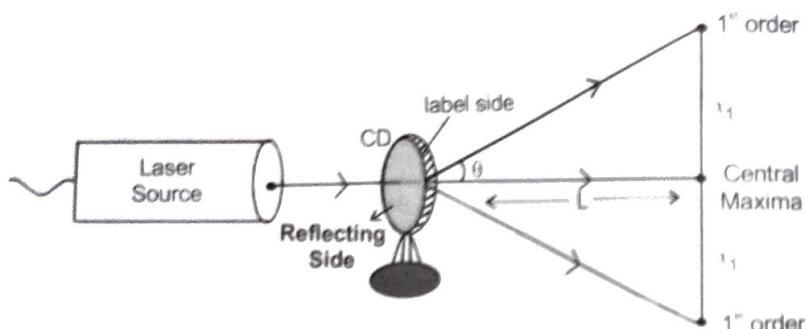

Fig. 7.4
1. Fix the transparent CD, in a stand using a clip, in such a way that the reflecting side should face the laser source as shown in Fig. 7.4.